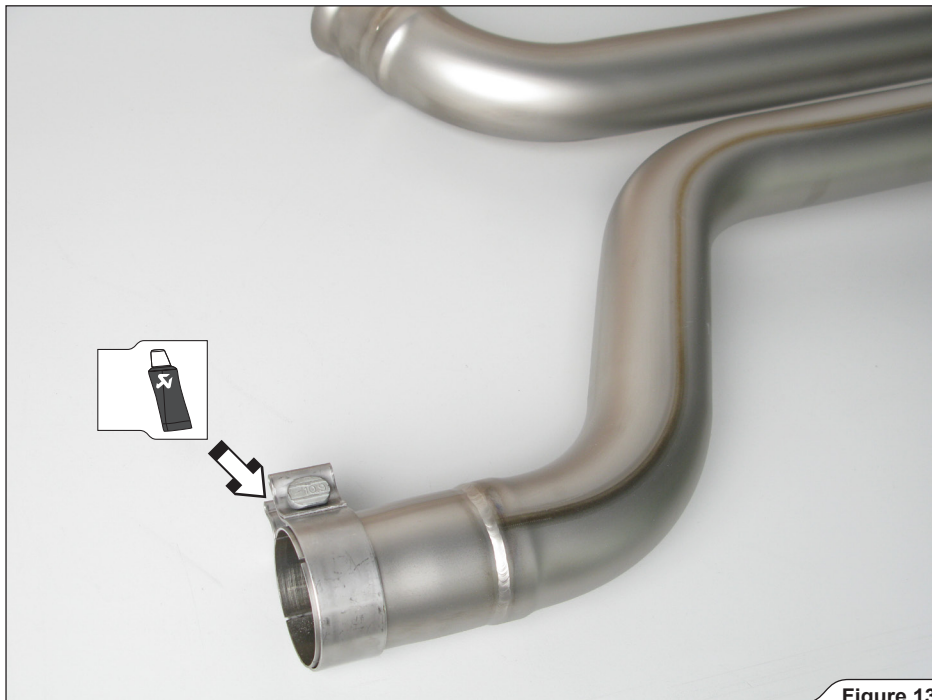

Figure 13
1. **For Evolution only:** attach the metal clamp to Akrapović middle pipes as shown (Figure 13).